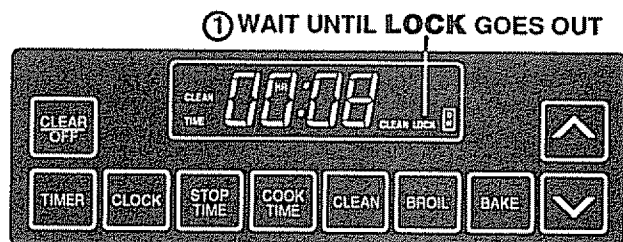

Fig. 3
1. Wait until the **LOCK** display goes out. Allow 30 minutes for oven to cool. The oven temperature must drop to a safe level before the door can be opened. See Fig. 3.